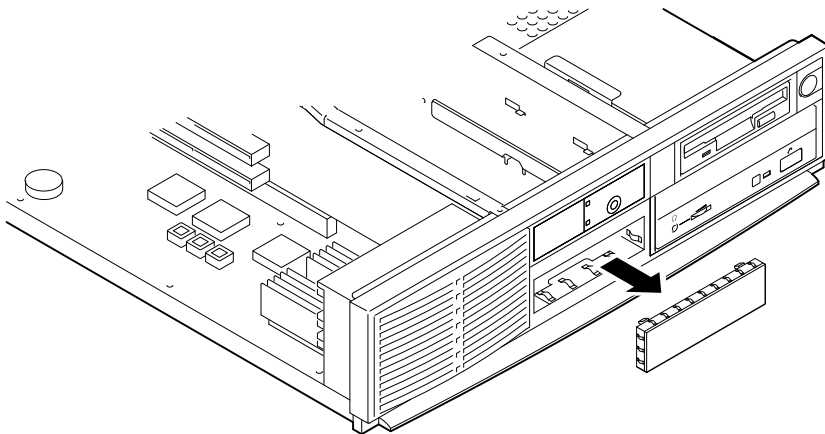

Figure 3-11. Removing Blank Panel
3. If you are installing a removable media drive in the lower position of the drive bracket, gently pop the panel out, as Figure 3-11 shows.